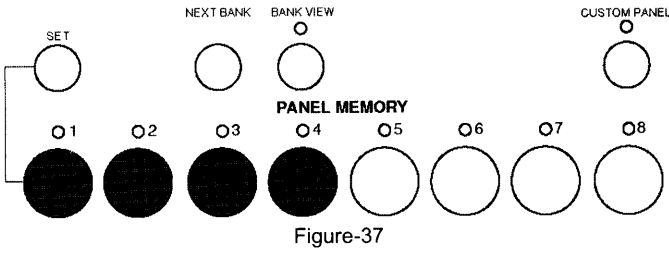

Figure-37
2. Hold down the **PANEL MEMORY** buttons 1, 2, 3 and 4 (as shown in Figure-37), and turn on the power switch.